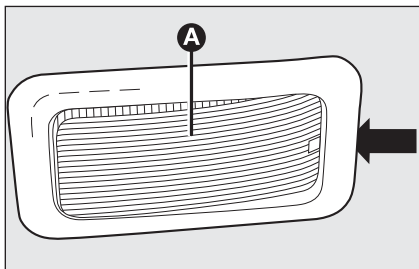

fig. 32
- using the screwdriver provided, extract the ceiling light **A**-fig. 32 working in the point indicated by the arrow;